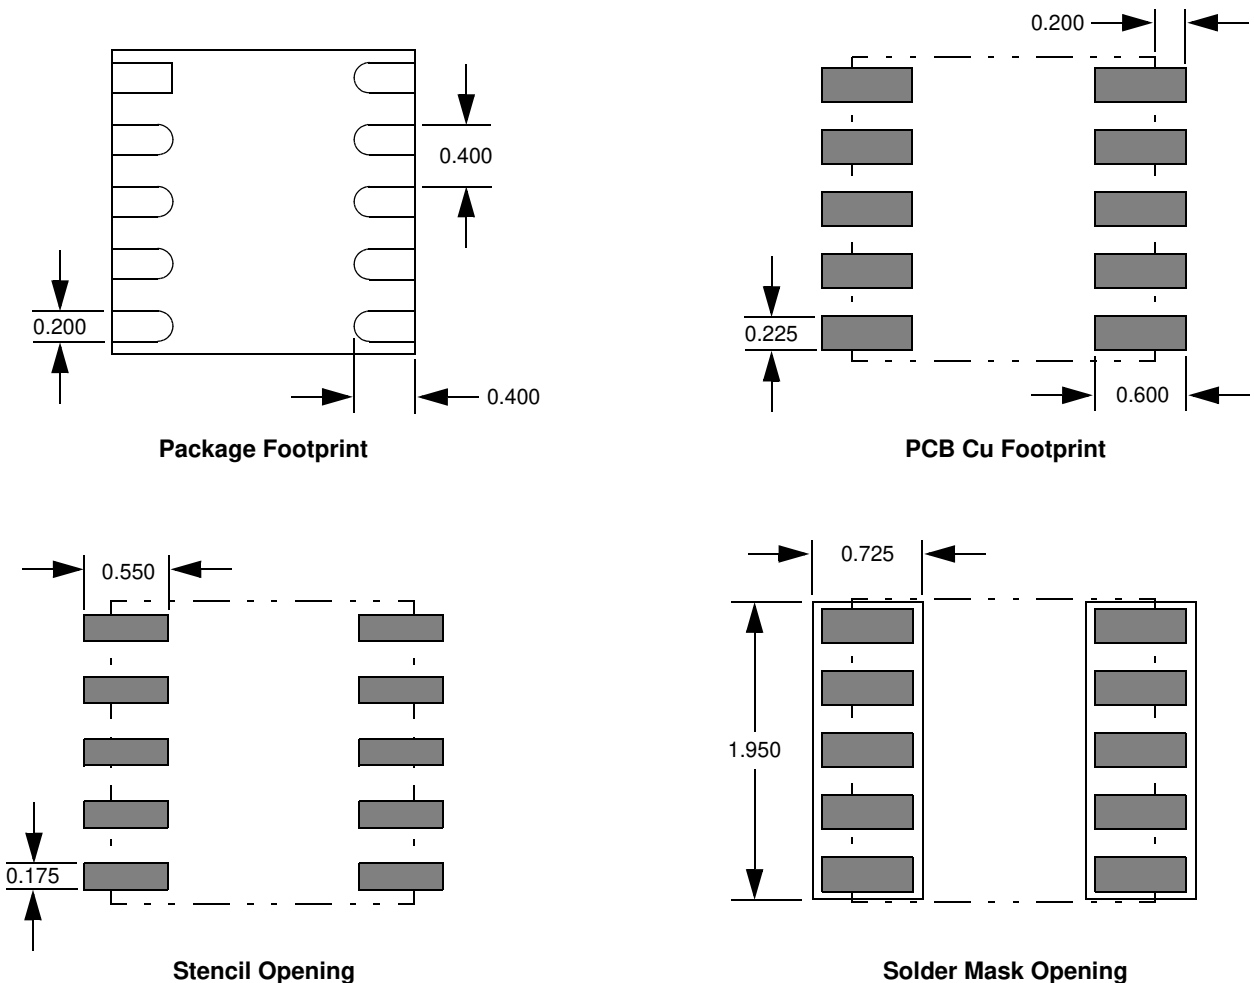

Figure 7. Footprints and Soldering Masks (dimensions in mm)
1. The PCB land should be designed as Non Solder Mask Defined (NSMD) as shown in Figure 7.
3. PCB land pad is 0.6 mm x 0.225 mm as shown in Figure 7.